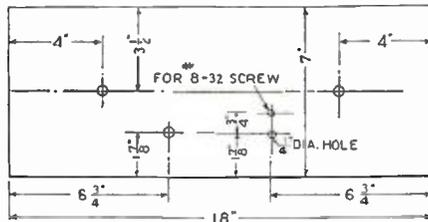

FIG. 4
- 1 Panel, 7 x 18 x $\frac{1}{8}$ inches. (See Fig. 4.)
For those whose facilities do not permit them to make the more elaborate device, the simpler form may be found to give good results. To make this, two circular discs of aluminum, approximately 3½ inches in diameter, are required. These are drilled in such a manner that tie rods can be used to hold the crystal between the discs. When the crystal is mounted in place, connections have been made to the poles, and a connection from the girdle has been brought out through an insulated bushing fastened in one of the end plates, a diaphragm is secured in place about the edges of the two discs. Then the diaphragm is twisted so that it is stretched in diagonal folds, and it is securely fastened by means of rings. Small adjustable embroidery rings may be used for this purpose. It will be found that varnishing the diaphragm will improve the tone and pitch. Fig. 4 shows a device of this type in its completed form.